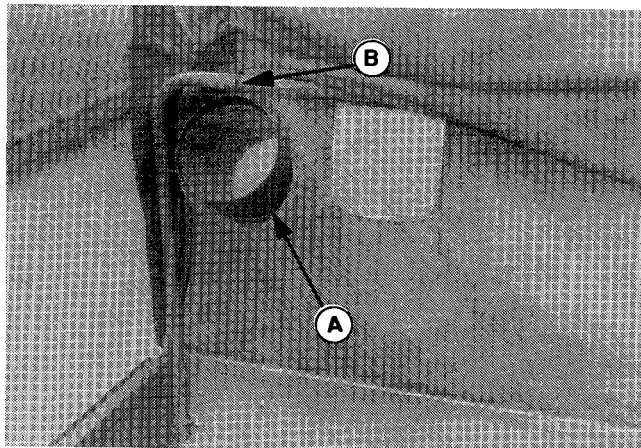

Figure 11.
- e. Install the plastic connecting sleeve (A, figure 11) inside the collar of the cover. The end of the sleeve which has a small hole should be positioned on the inside at the top. Insert the spring clip (B) through the hole in the sleeve and hook it over the support tube.